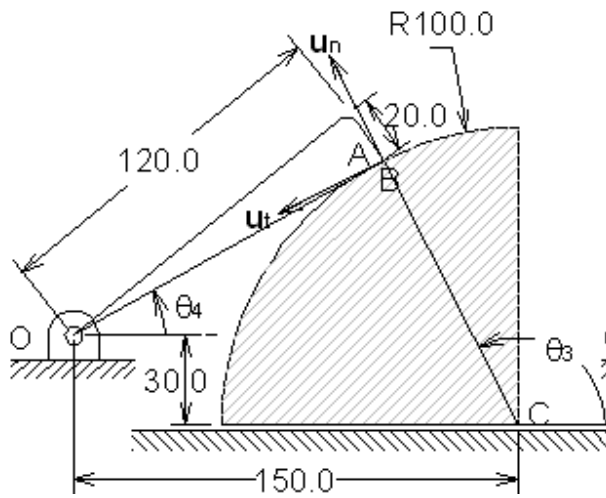

Figure P2.40
2.40 The cam shown in Figure P2.40 moves to the left with a constant speed of 10 cm/s. Find the angular velocity and the angular acceleration of the follower. Dimensions are in millimeters.